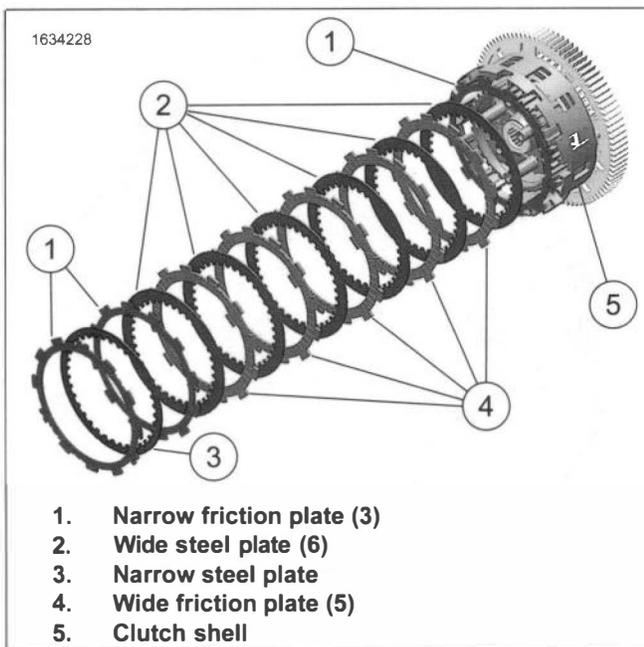

Figure 5-24. Clutch Plates
4. See Figure 5-24. Remove friction and steel plates (1-4).